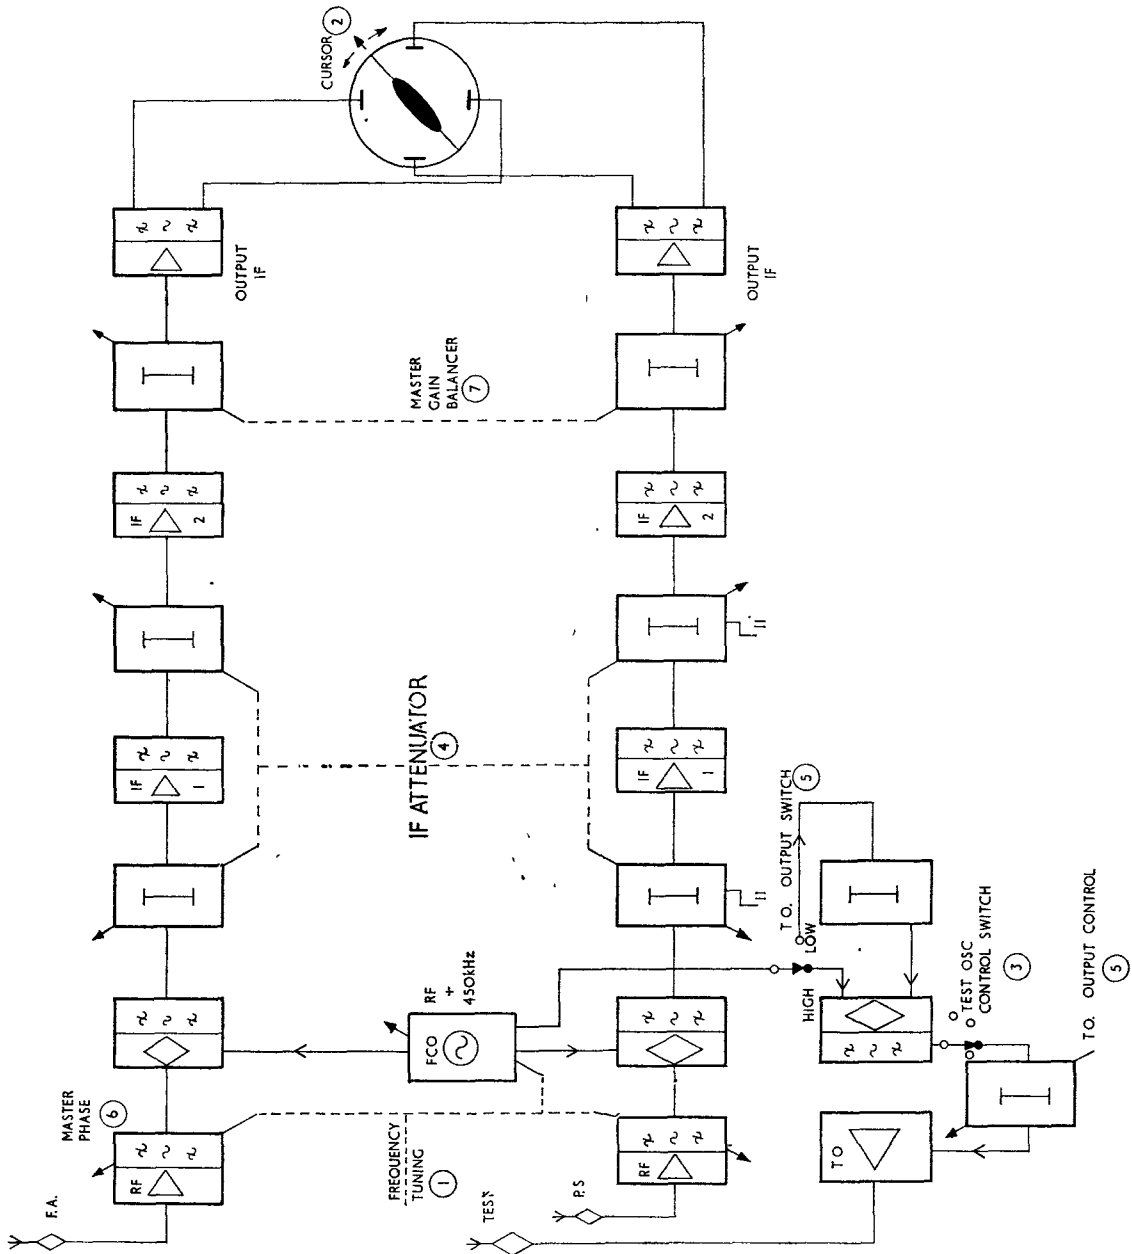

FIG. 2. HF DF SYSTEM FH4 - CONTROLS USED FOR OPERATOR'S CHECK - BLOCK DIAGRAM
6. **Operator's Check.** This is designed to allow the operator to use the external test signal to achieve an overall balance of the system on the frequency to which the receiver is tuned. This check is to be carried out hourly when on a task frequency or if receiver frequency is altered by more than one rotation of the tuning control. Diagrammatic illustration of this check is shown in Fig. 2.